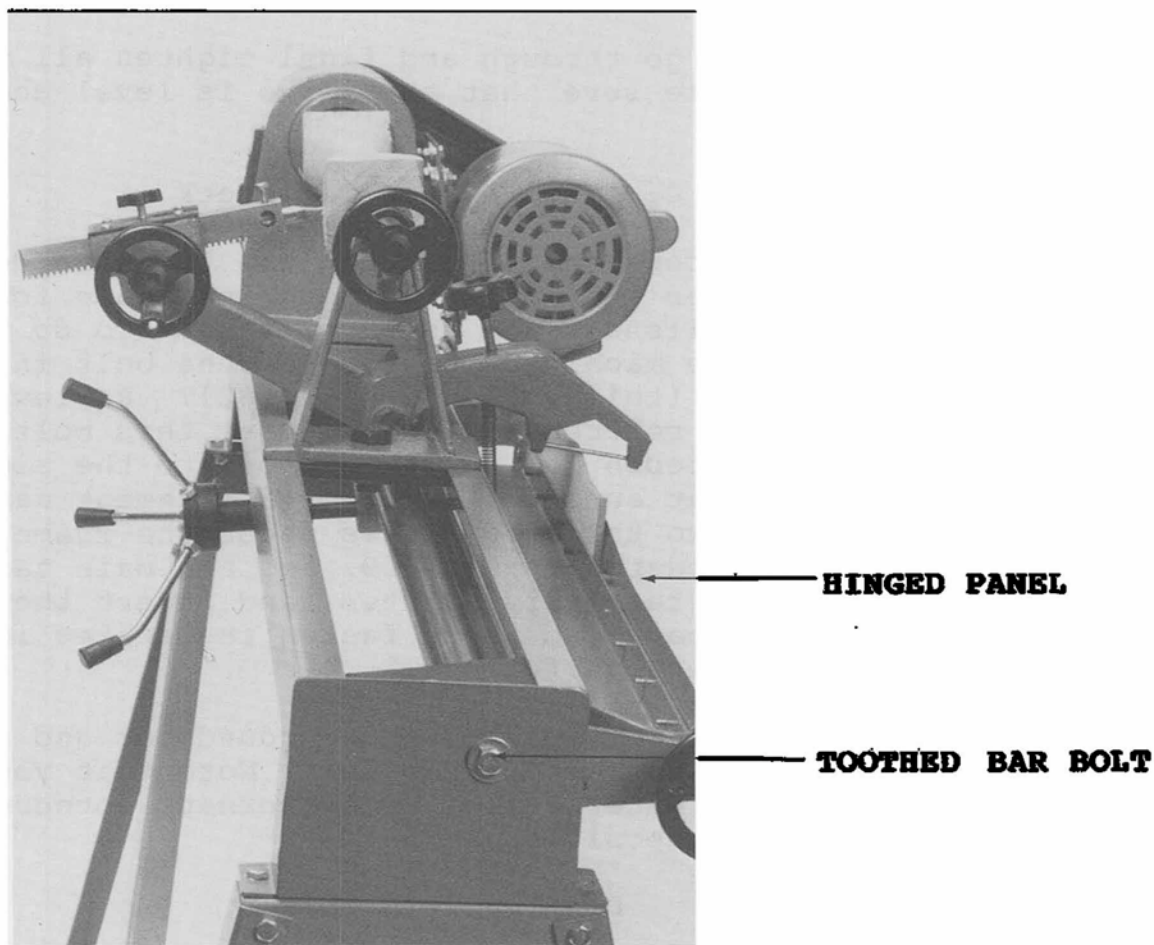

Figure 7 - shows location of rear center and hinged panel.
2. The hinged panel, part #60, goes on next. Use four of your 1/4" bolts for this purpose; a 10 mm wrench will be required. Note here that it is much easier to do it this way than vice-a-versa. See Figure 7.
4. We're now ready to wrap up the belt business by installing the guard. Use your last two $\frac{1}{4}$ " x $\frac{1}{2}$ " bolts for this purpose. One final word before leaving this topic: Right now, why not mount your faceplate on the spindle nose, and turn it over by hand. Any funny noises? Anything rubbing anywhere? It's easy to make a fix now, if you have to. We're on the home stretch! Mount your copy attachment casting now on the trunnion bolt and yoke provided on the round bar. See Figure 7.